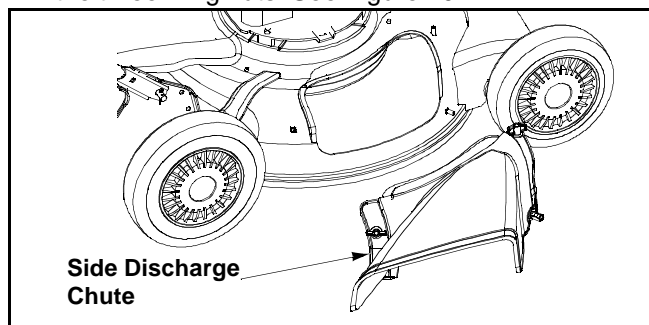

Figure 10
- Attach side discharge chute to unit and secure with the three wing nuts. See Figure 10.